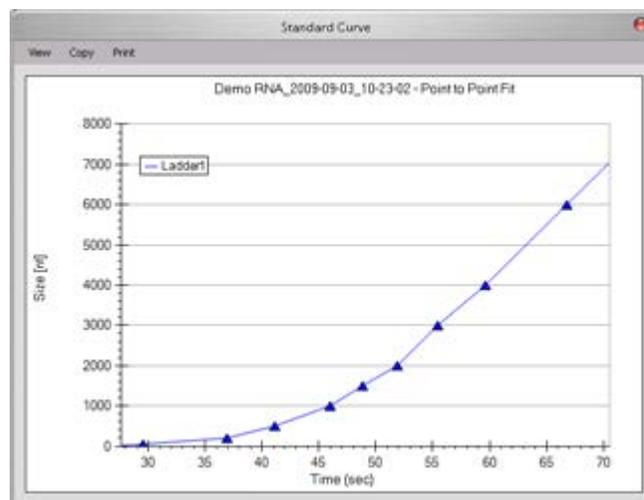

Figure 10. Standard Curve - RNA
- The ladder is analyzed (see Ladder Analysis on page 282) and a standard curve of migration time versus RNA size is plotted from the RNA ladder by interpolation between individual RNA fragment size/migration points. The standard curve derived from the data of the ladder well should resemble Figure 10.